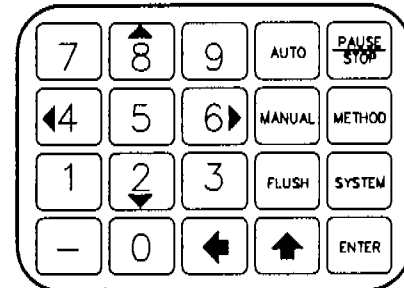

Figure 4.1. Model 4552 keypad
- The keypad provides a complete numeric pad as well as a motion operation pad for the XYZ-axis arm (Figure 4.1). These items display on the four-line, 20-character LCD: